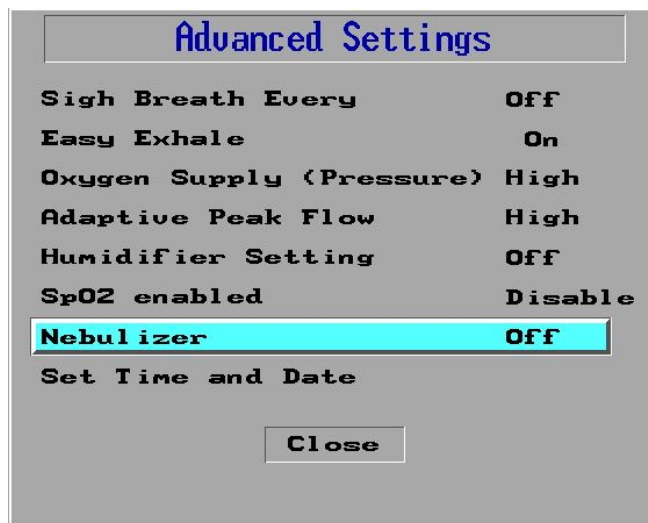

Figure 91: Nebulizer Selected
2. In the **Advanced Settings** screen select **Nebulizer**. The current setting is shown in the right column of the screen (Figure 91).